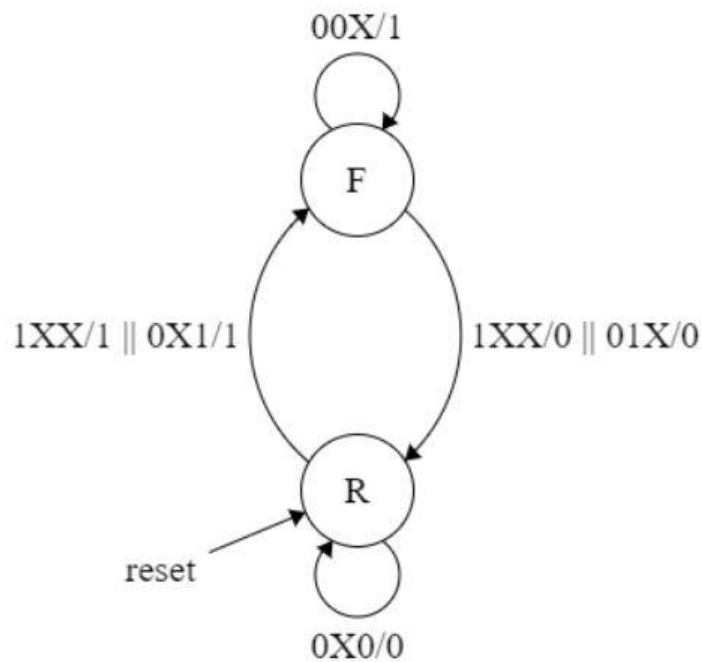

Figure 4 - pongCounter state diagram
These requirements were implementing by using a simple FSM with two states, forward (F) for incrementing, and reverse (R) for a decrementing counter. The state diagram and state table are shown in Figure 4 and Table 4 respectively. For the state table, “CD” represents change direction (True when direction should be changed) and “D” represents direction “True when incrementing).